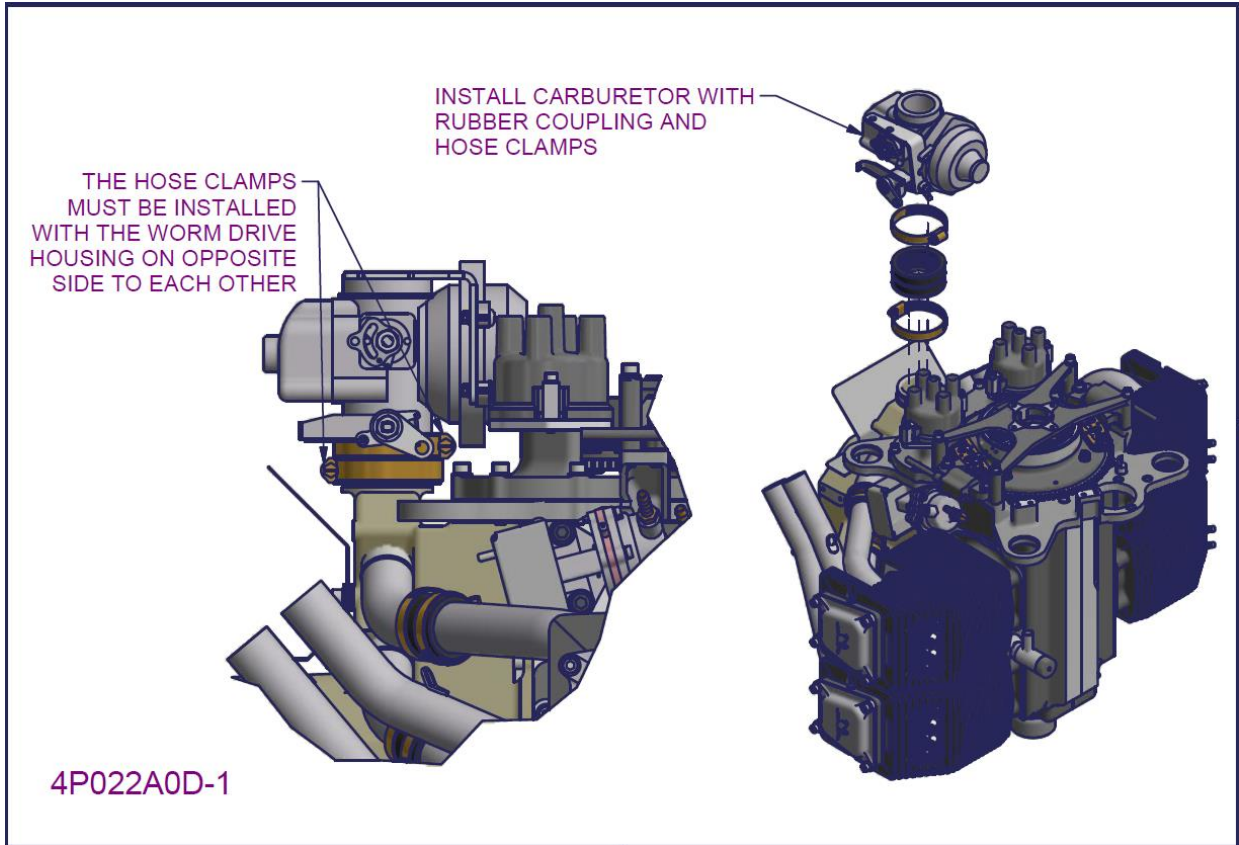

Figure 183 – 2200/3300 Carburettor and starter installation 1
- The hose clamps must be orientated so the worm drive housings are on opposite sides of the carburettor as shown in Figure 183.